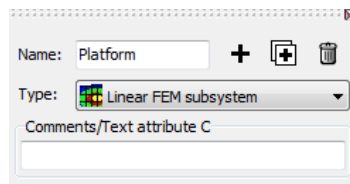

Figure 2.32.
3. Set **Name** to **Platform** (Figure 2.32).